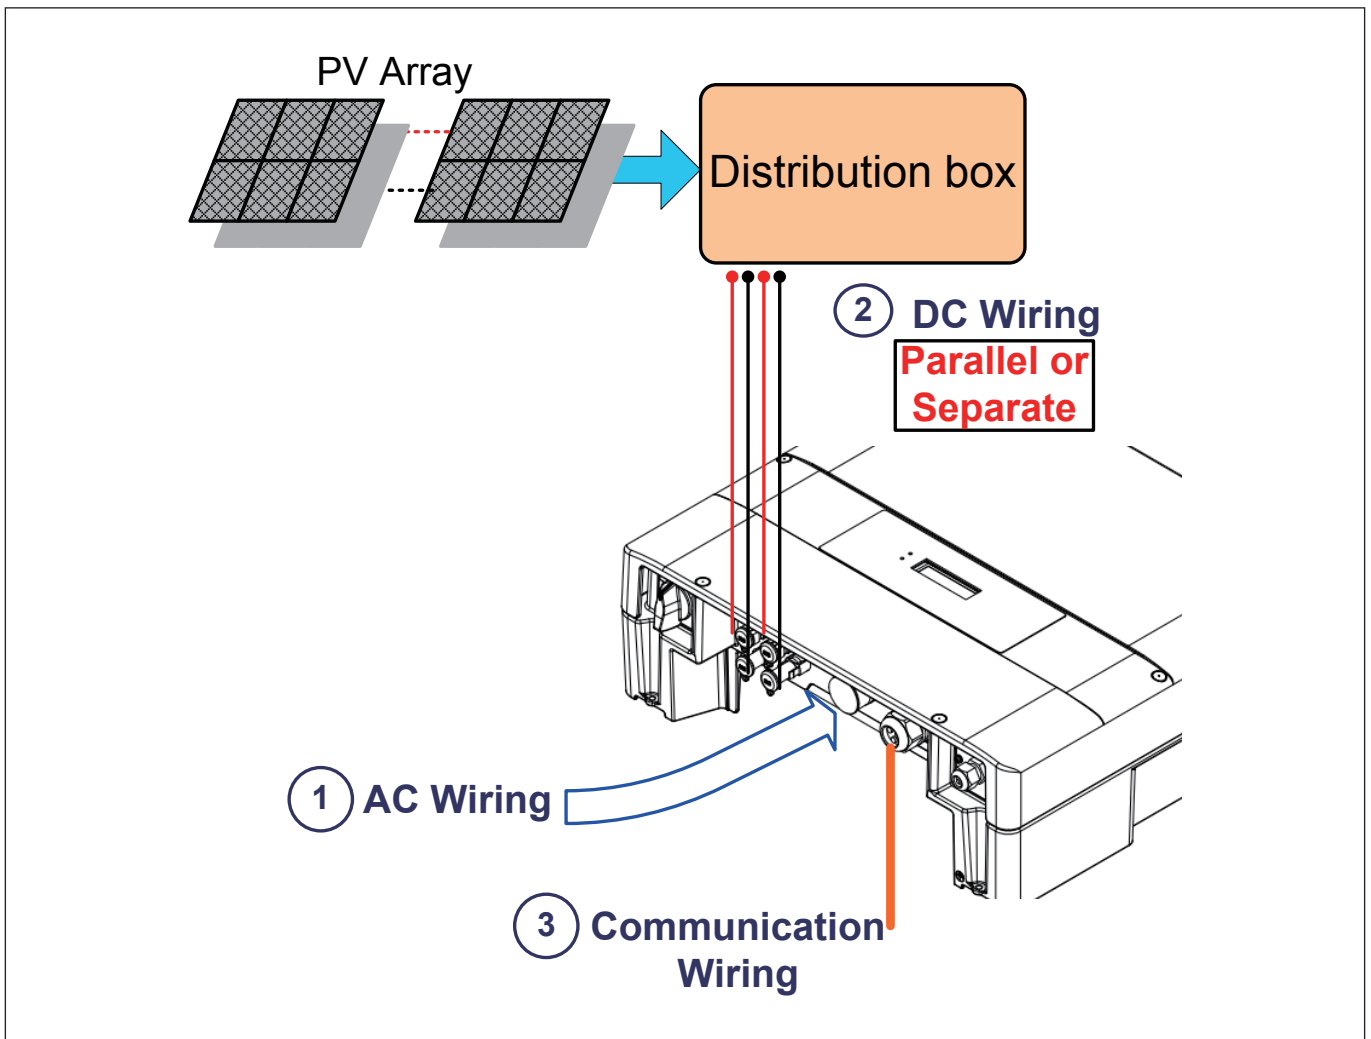
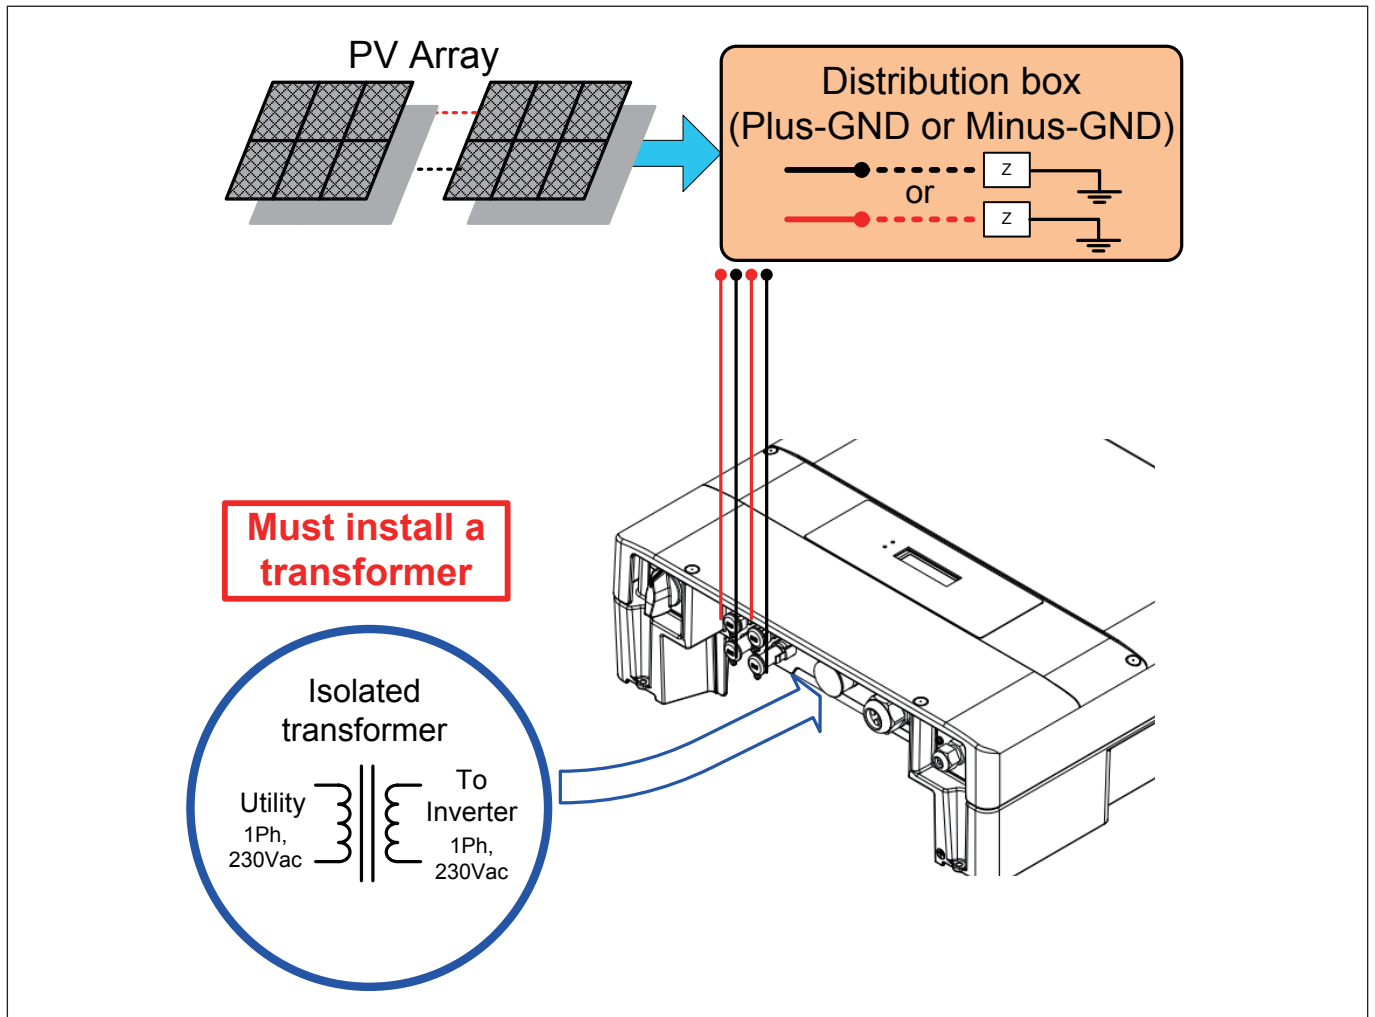

Figure 5-1: Connection of a system for floating solar array
Figure 5-2: Connection of a system for solar array grounding
4. Whole system wiring can be seen in Figure 5-1 and Figure 5-2.
5. Please refer to Figure 5-1 for connections. Inverter can accept DC inputs in parallel (2 MPP trackers/ 2 parallel input).